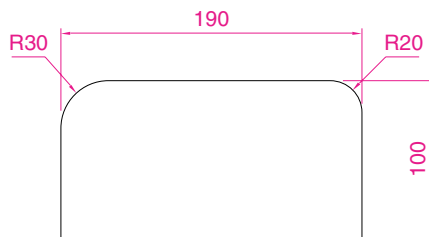

Fig. 6.8 Third example – **Radius Dimension**
Third example – Radius Dimension (Fig. 6.8)
1. Construct the outline in Fig. 6.8 using the **Line** and **Fillet** tools.
3. Continue dimensioning the outline as shown in Fig. 6.8.